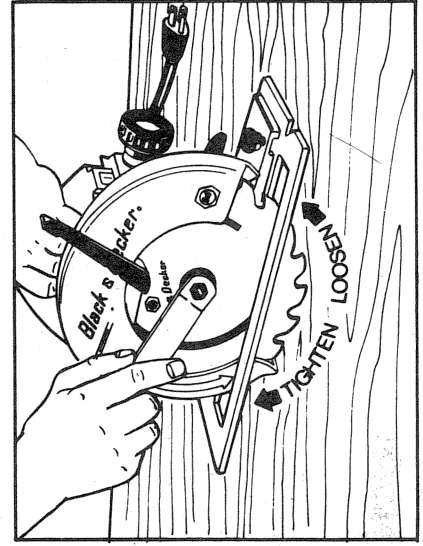

FIGURE 2
b. ON SAWS WITH BLADE ATTACHED. Using the retracting lever "C", retract the lower blade guard and place the Saw on a piece of scrap lumber as shown in Figure 2. Press down on the Saw so that the blade teeth dig slightly into the lumber and prevent the blade from turning. Then, with the blade wrench provided, turn the clamping screw counter-clockwise and remove the screw and outer clamp washer "B1". Disengage the blade teeth from the lumber, and with the lower blade guard still retracted, lift off the blade.
3. To attach the blade, retract lower blade guard. Place inner clamp washer "B2" & blade on saw spindle "D" with printed side of blade out (teeth at bottom of blade pointing forward). Place outer clamp washer "B1" on spindle so that "flats" in washer fit "flats" on spindle. CAUTION: Inside "flats" on both clamp washers, "B1" & "B2", must fit over "flats" on spindle "D", and larger surfaces of both washers must face blade. Thread on clamping screw firmly by hand to hold washers in position. Place Saw on piece of scrap lumber as shown in Figure 2 and press down on the Saw so that blade teeth dig slightly into wood and prevent blade from turning. Tighten clamping screw (clockwise) firmly with the blade wrench.